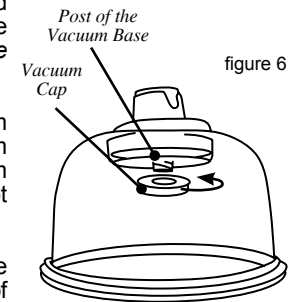

figure 6
7. From the inside of the Dome, place the Vacuum Cap onto the post of the Vacuum Base. Twist the Vacuum Cap on snugly, do not overtighten (figure 6).